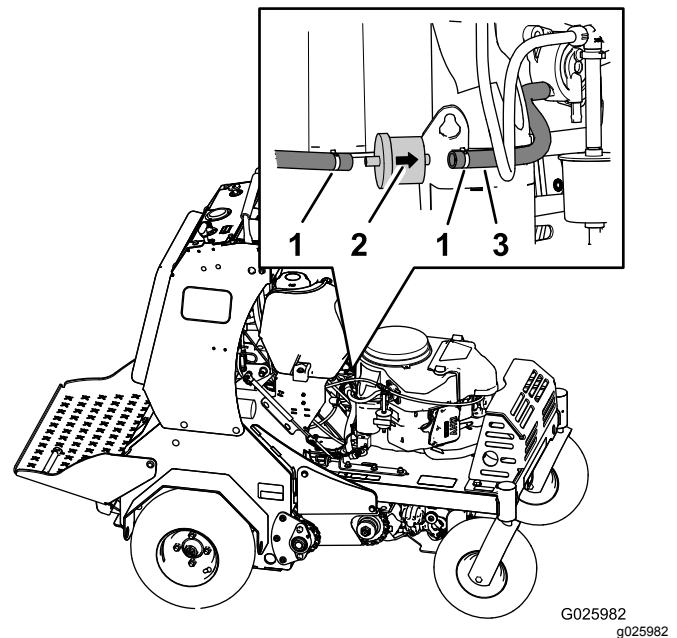

Figure 39
3. Squeeze the ends of the hose clamps together and slide them away from the filter (Figure 39).
4. Remove the filter from the fuel hoses (Figure 39).
5. Install a new filter with the flow-direction arrow aligned as illustrated in Figure 39.
6. Align the hose clamps over the hose and the fuel-filter fittings (Figure 39).